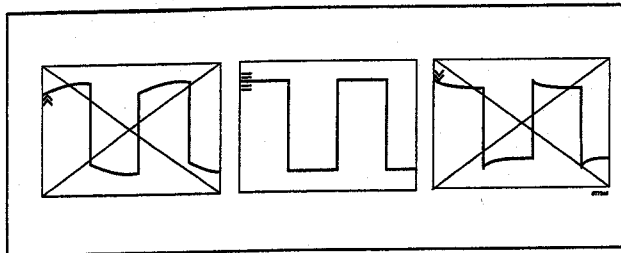

Figure 7.2 Adjusting the probe
- The probe adjustment can now be made. Adjust the trimmer screw in the probe housing of channel A to give an optimum square wave within the equal markers on the display (see Figure 7.2).